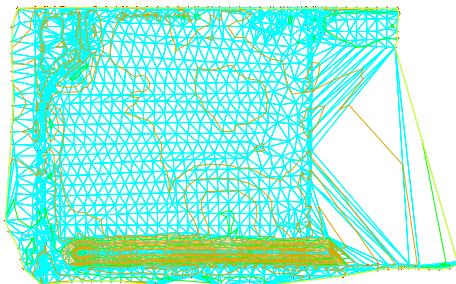

Figure 3-60 The TIN surface with the surface points
6. Choose the **OK** button to close the **Surface Properties - EG Surface** dialog box. Figures 3-60 and 3-61 show the TIN surface with the surface points and the point style selected, respectively. Note that the surface points are represented by the symbol that was selected for the point display in the surface style.